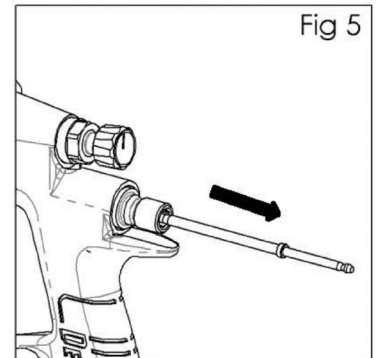

Fig 5
4. Remove fluid needle (24) (See fig 5).